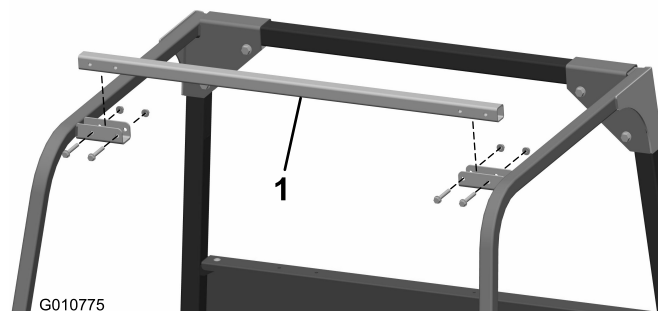

Figure 3
5. Remove the two flange head bolts, washers and flange nuts securing the right end of the crossbar to the right ROPS post (Figure 3).